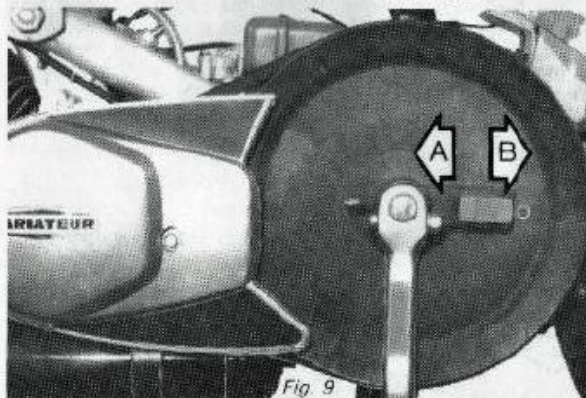

Fig. 9
Before starting, make sure that the engine drive knob on the large driven pulley is on the « B » position (see Fig. 9).
- Put the engine drive knob in the « B » position (Fig. 9, page 9)
- Put the ignition switch (5) on the RUN position
- Turn the throttle twist grip (3) slightly with your right hand
- Squeeze the choke (2) with your left hand
- With your right thumb, squeeze completely the decompressor control lever (1).
- Starting with the left-hand pedal at its top position kick the pedal down sharply and release the decompressor lever (1) (right thumb) when the left-hand crank arm reaches the bottom.
- As soon as the engine engages, use the throttle (3) to give it some more gas.
- After the engine has run for a few seconds, release the choke (2).
- Stop the rear wheel from spinning simply by squeezing the left hand rear brake lever (4).
- Put the engine drive knob in the « B » position (Fig. 9, page 9).
- Put the ignition switch to its RUN (5) position and engage the throttle slightly
- Squeeze both the choke lever (2), and decompressor control lever (1)
- As soon as the engine is turning, release the decompressor control lever (1) (right thumb) and open the throttle more